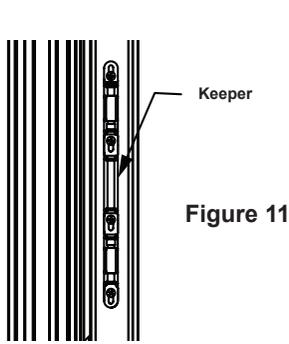

Figure 11
- Using the dimples as a guide, install the keeper to the panel with the dummy handle using the (4) #8 x 1-1/4" pan head screws. Adjust the keeper up or down until the latch engages properly, (Figure 11).